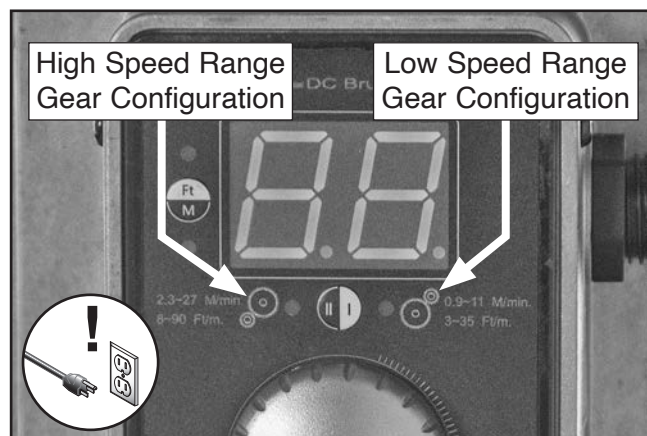

Figure 20. Gear configurations.
2. Refer to illustrations (see **Figure 20**) on control panel to see which gear configuration is required for desired speed range.